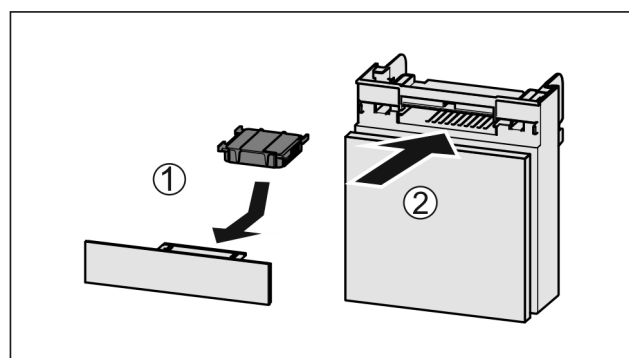

Fig. 227
- Insert the carbon filter as shown in the diagram Fig. 227 (1).
- Push the compartment in Fig. 227 (2).